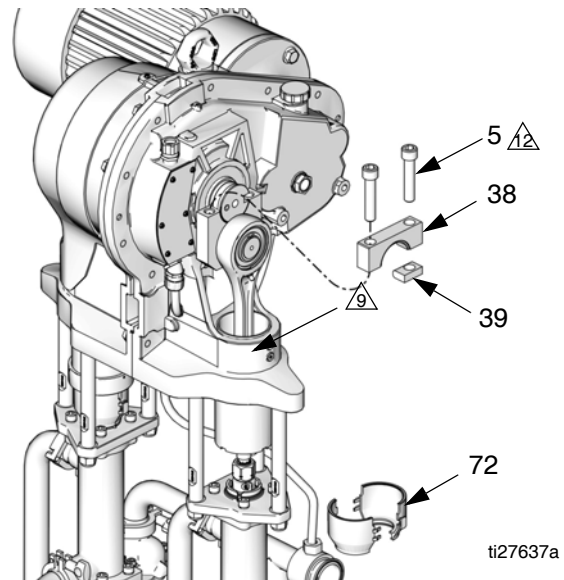

FIG. 17. Remove Crank Arm Cap
5. Place a clean rag over the top of the slider cylinder (2) to prevent debris from falling into the slider assembly during disassembly.
6. Remove the 2-piece shield (72) by inserting a screwdriver straight into the slot, and using it as a lever to release the tab. Repeat for all tabs. **Do not** use the screwdriver to pry the shields apart.
7. Place a 3/4 in. wrench on the slider piston (9) flats (just above the coupling nut), to keep the slider piston/connecting rod from turning when you are loosening the coupling nut (14). Orient the wrench so it is braced against one of the tie rods (3). Applying excessive force to the slider piston/connecting rod can shorten the life of the lower pin bearing.
8. Using a 1-5/8 in. open-end wrench, unscrew the coupling nut (14) from the slider piston (9) and let it slide down onto the pump piston rod. Be careful not to lose the collars (13).
9. See FIG. 17. Using a 1/2 in. hex driver, unscrew the two cap screws (5). Remove the crank arm cap (38) and key (39). If necessary, use a plastic hammer to break these parts loose.
14. Slide the piston (9) and connecting rod (7) into the cylinder (2).
15. Position the crank arm (4) to engage the output shaft (OS), and rotate it to the bottom of the output shaft.
16. Place a clean rag over the top of the slider cylinder (2) to prevent debris from falling into the slider assembly during reassembly.
17. See FIG. 17. Apply antiseize lubricant (LPS[®]-04110 or equivalent) to the threads of the cap screws (5). Install the key (39), crank arm cap (38), and cap screws (5), oriented as shown. While the gap-side screw is still loose, torque the key-side screw to 210-230 ft-lb (283-310 N•m). Then torque the gap-side screw to 210-230 ft-lb (283-310 N•m). Torque screws an additional 2-3 times each, or until they stop turning when torqued to 210-230 ft-lb (283-310 N•m).
18. Ensure that the collars (13) are in place in the coupling nut (14).
19. Place a 3/4 in. wrench on the flats of the slider piston (9), to keep it from turning when you are tightening the coupling nut (14). Orient the wrench so it is braced against one of the tie rods (3) or the pump stand. Tighten the coupling nut (14) onto the slider piston (9) and torque to 75-80 ft-lb (102-108 N•m).
20. Install the shields (72) by engaging the bottom lips with the groove in the wet-cup cap. Snap the two shields together.
21. Remove the rag. Reinstall the cover (32 or 21) and screws (12).